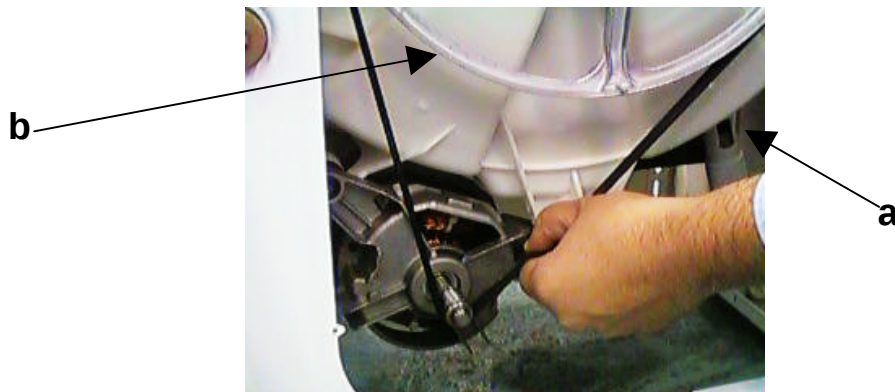

Figure : 19
- Poly-V belt is pulled off while turning over the pulley (figure 19)
- Poly-V belt is removed (figure 19)
- The bolt that connects the pulley to the tub shaft is unscrewed (figure 19/b)
- Pulley is disassembled (figure 19)